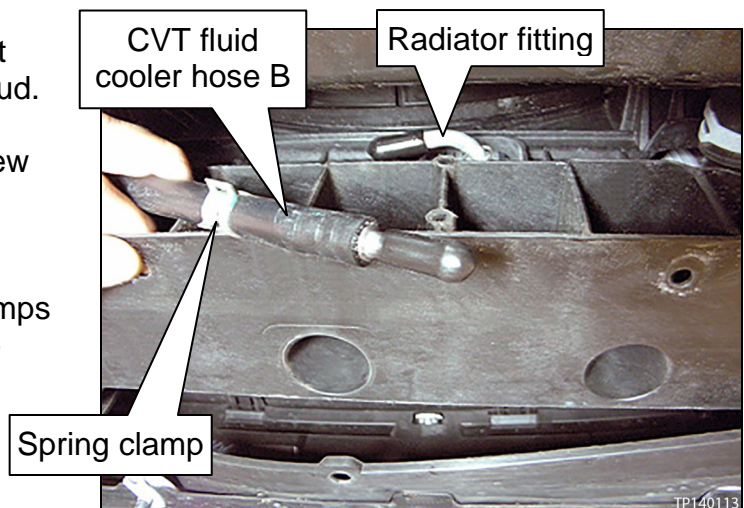

Figure 1
2. Locate “CVT fluid cooler hose A and B” (cooler hose) shown in Figure 1 and 2.
4. Pinch and then slide both spring clamps toward the middle of the cooler hose (see example in Figure 1).